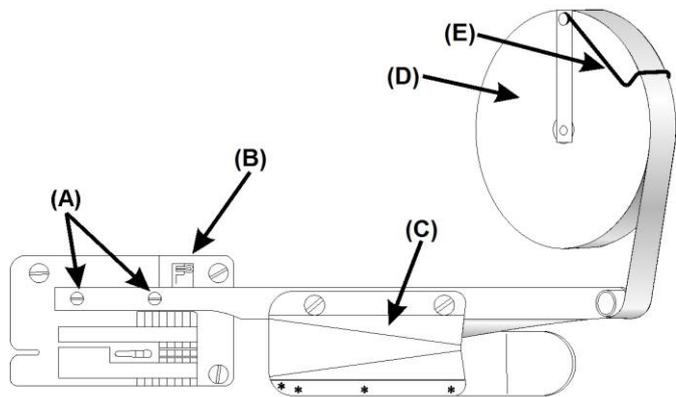

Fig: 9B
2. Remove the reel of tape (**Fig: 9B**) and lift the presser foot using the lifter lever (11654) (**Fig:3, page 15**).
3. Loosen the two screws holding the folder to the throat plate (A) and remove the folder. (**Fig: 9B**)
4. Hold the new folder in place and attach it to the throat plate with the screws (A).